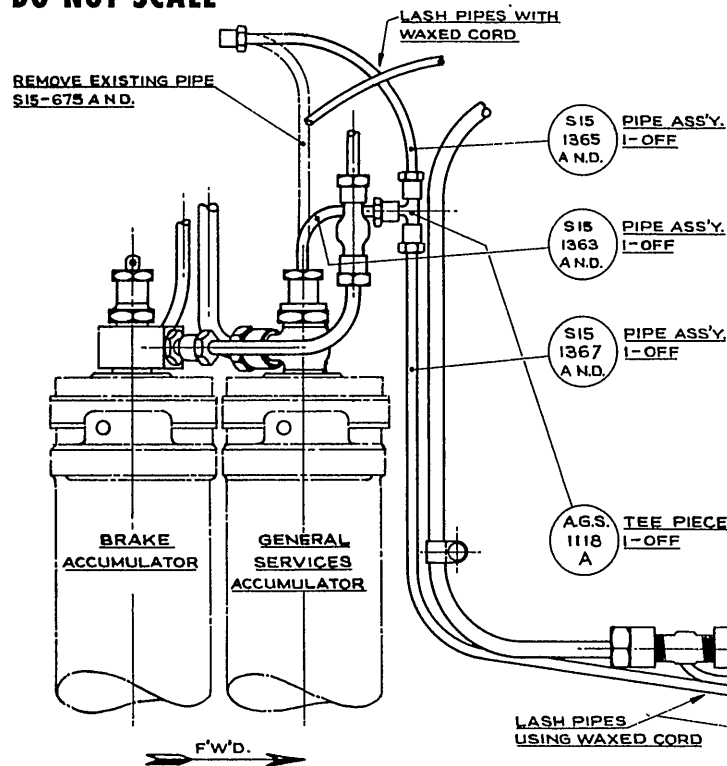

FIG. 1.
- (j) Temporarily assemble pipes S15-1363AND (item 1), S15-1365AND (item 2), S15-1367AND (item 3), tee piece (item 4) and nipple (item 5) as shown in Fig 1 of sheet 1 of the drawing, and offer it bodily to the accumulator, the pressure release valve and the pressure switch. Finally tighten all connections.
- (k) Maintain the accumulator pressure release valve in the open position and raise the system hydraulic pressure using the hand pump. Loosen the union at the pressure switch and bleed the new pipe lines. Secure the union and wirelock all connections using item 25.